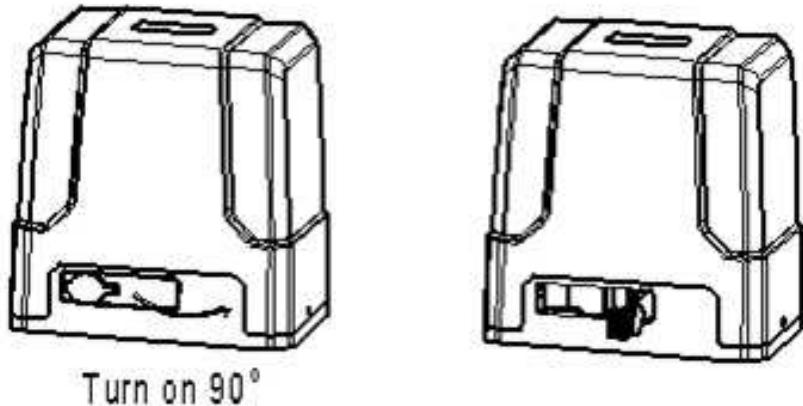

Figure 6
- c) Please unlock the main machine before installation, the unlock method is: take out the key cover, insert the key to open the manual release bar till it opens to 90° as shown in Figure 6. Then rotate the output gear and the gear can be rotated easily.